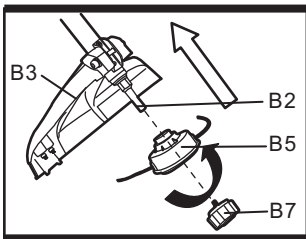

Fig. 5
- c). Secure the trimmer head (B5) with bumper (B7) clockwise. (See Fig. 5)